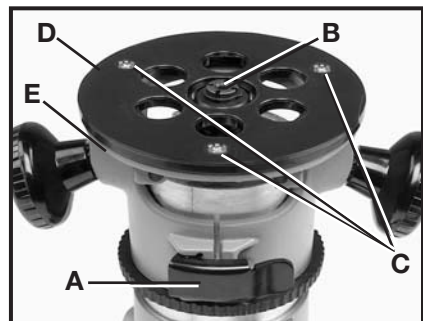

Fig. 4
1. Loosen the sub-base mounting screws (C) Fig. 4 just enough to allow the sub-base (D) to move.
2. Open the clamp (A) Fig. 4, and adjust the power unit so that the collet nut (B) engages the center hole in the sub-base (D). Allow the sub-base to center itself on the collet nut. Close the clamp (A).
3. Tighten the sub-base mounting screws (C) Fig. 4 securely.